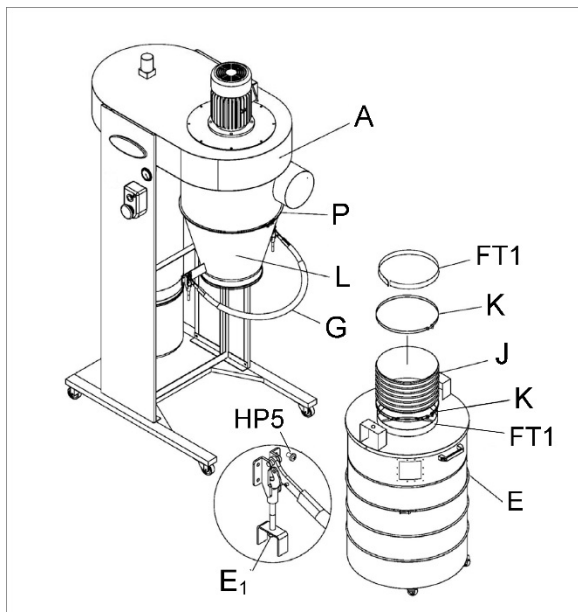

Figure 8
9. Assemble cone (L, Figure 8) to housing (A) and secure with cone clamp (P). Tighten screw on clamp.
10. Paste 1-inch wide strip of foam tape (FT1) around cone (L) just above bottom lip.
11. Paste 1-inch wide strip of foam tape (FT1) around flange of drum lid (E).
12. Install hose (J) to cone and drum lid with hose clamps (K).
13. Install quick-release handle (G) to flanges of cone with pan head screws (HP5).
14. Attach quick-release handle to drum lid (E) using nuts (E₁).